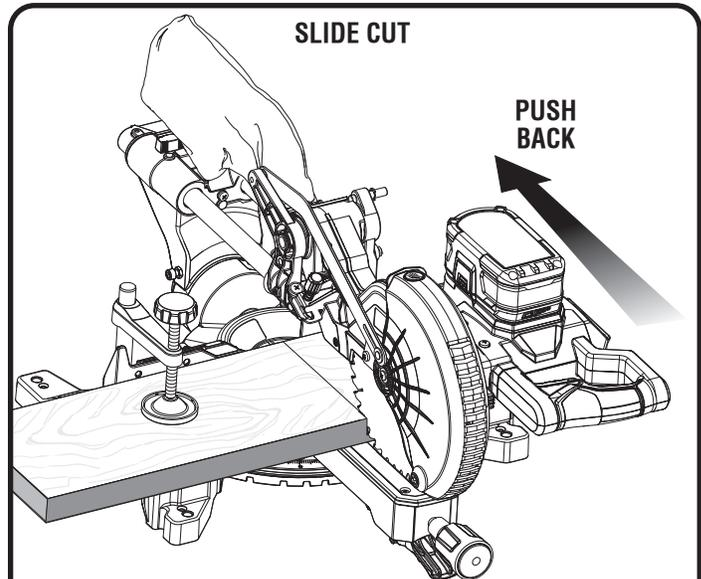

Fig. 34
- Assemble and attach auxiliary fence as shown in figure 34.